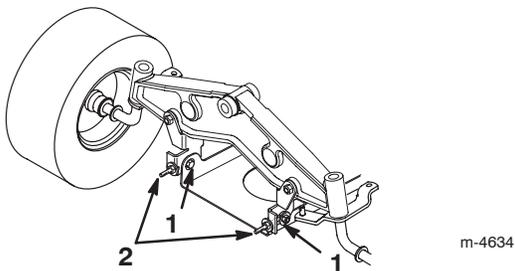

Figure 52
- Slightly loosen the front pivot plate mounting bolts (Fig. 52).
- Rotate the locknuts on the eyebolts to change the adjustment (Fig. 52).
- After adjusting both of the eyebolt locknuts evenly, check the front-to-rear slope again. Continue adjusting the eyebolts until the front blade tip is 0 to 3/8 in. (0 to 9 mm) lower than the rear blade tip (Fig. 52).
- When the front-to-rear slope is correct, tighten the pivot plate mounting bolts (Fig. 52).